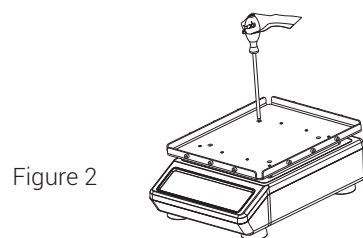

Figure 2
2. Align counter bores and nut columns, and fasten the screws as shown in the figure 2.